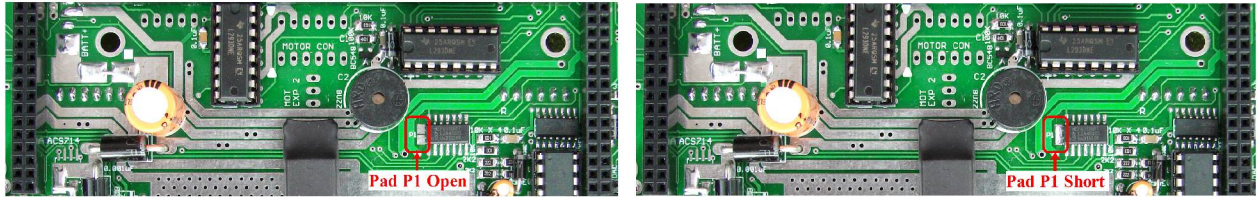

Figure 3.28: Pad P1 open and with short
* Position encoder of the motor C1 is connected to the INT7 pin of the ATMEGA2560 microcontroller via soldering pad P1. INT7 interrupt pin is also connected to bootloader switch and TSOP1738 (via pad on microcontroller socket). If you want to use position encoder of C1, then make sure that bootloader code is removed from the the ATMEGA2560 microcontroller and soldering pad for TSOP1738 connection on the microcontroller socket is open. After these two precautions are taken, solder pad P1 on the main board to connect C1 motor's position encoder to the ATMEGA2560 microcontroller socket. This is very important. If not done then because of pulse from C1 motor's position encoder, ATMEGA2560 microcontroller will go in to boot mode. Figure 3.28 shows location of the pad P1 on the main board.